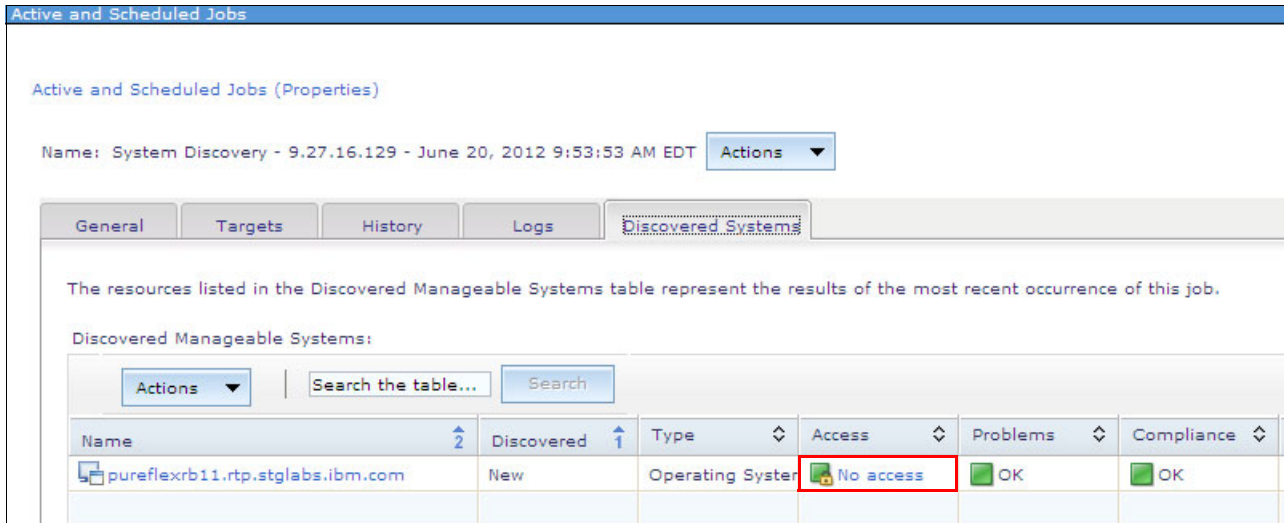

Figure 10-140 Checking the virtual server status
- Discover the newly deployed virtual server as shown in Figure 10-140. Discover the virtual server and collect inventory in the Resource Explorer window. Perform this step even if you can see the virtual server in the Virtual Servers and Hosts tab in VMControl. Click the **No Access** link to get access to the newly discovered server.